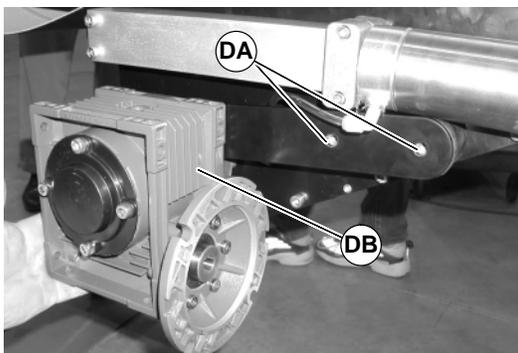
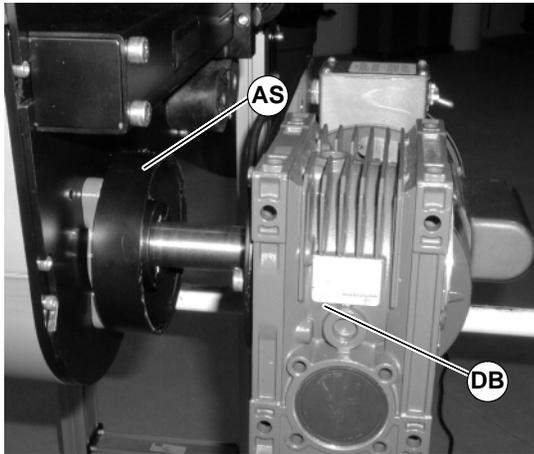

Figure 103
Figure 107
2. Remove screws (DA of Figure 103) and remove gearmotor (DB) (NOTE: Gearhead shown with motor removed for clarity, motor can remain attached to gearhead).
9. Reinstall spacer ring (AS of Figure 107) and gearmotor (DB). Tighten screws (DA of Figure 103) to 150 in-lbs (17 N-m).